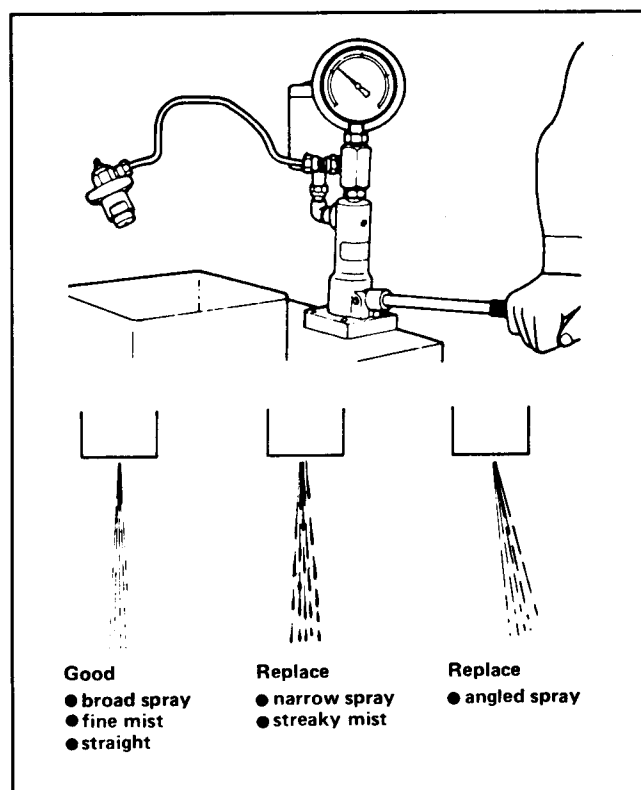

Figure 19
2. Observe the injector nozzle spray. The spray pattern should be finely atomized in a broad, straight stream (Fig. 19).